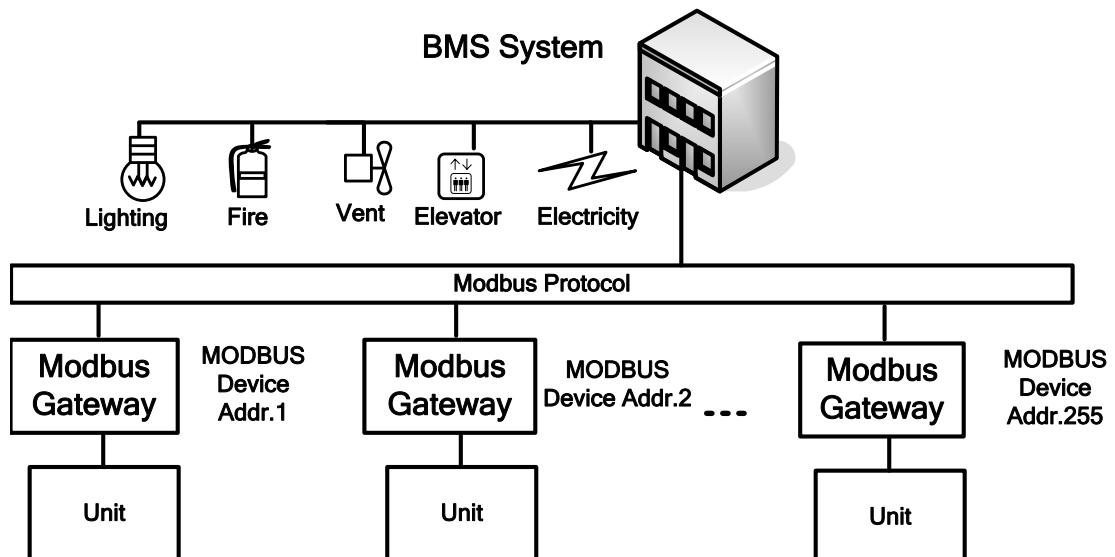

Fig.1: Topological Structure
- 1) As shown in Fig. 1, it can be seen that the whole network consists of two parts: units network and Modbus network, which are connected through the Modbus Gateway by which the communication data can be interchanged.